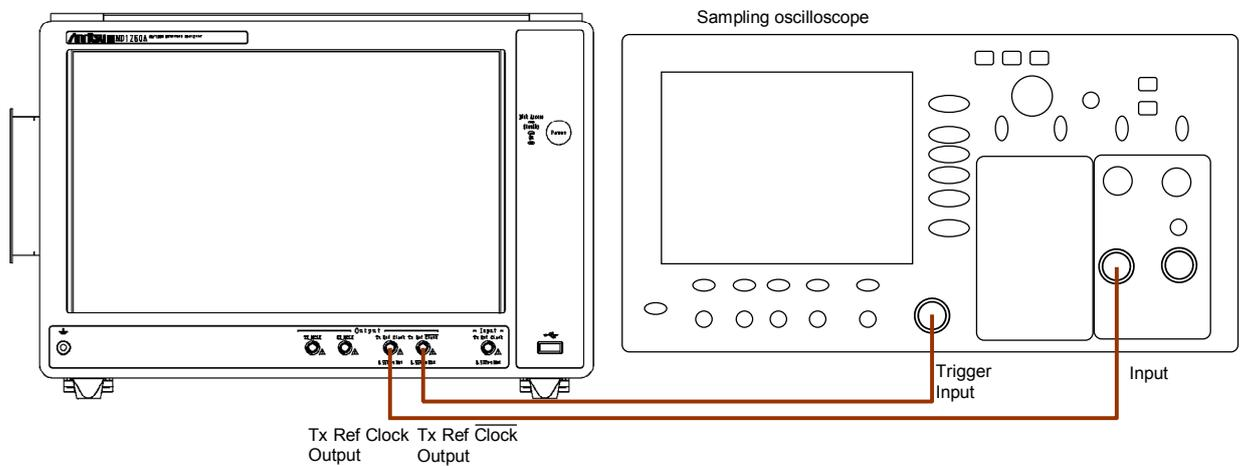

Figure 8.4-2 Measurement System for Tx Ref Clock Output terminal
1. Connect the 10 MHz Output terminal at the rear panel of the MD1260A and the sampling oscilloscope input (Figure 8.4-2 a).
2. Connect the Tx Ref $\overline{\text{Clock}}$ Output at the front panel of the MD1260A and the sampling oscilloscope trigger (Figure 8.4-2 a).
10. Connect the Tx Ref $\overline{\text{Clock}}$ Output terminal at the front panel of the MD1260A and the sampling oscilloscope input (Figure 8.4-2).